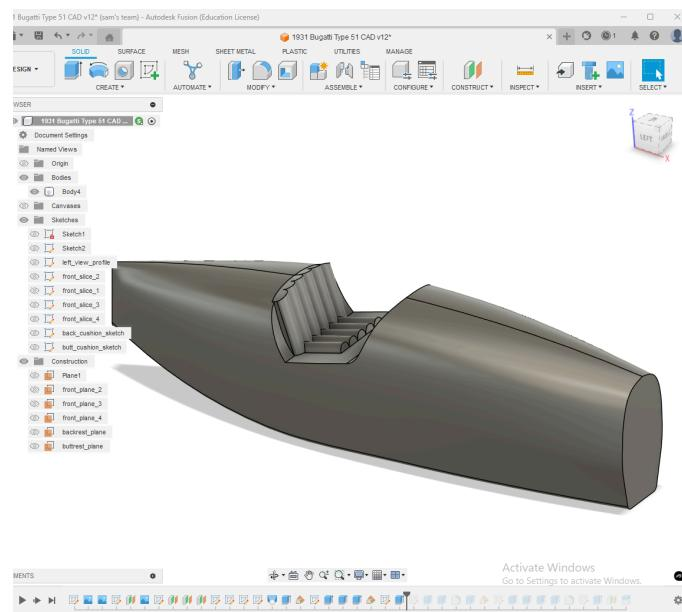

Fig. 15: Extruding the seat cushions outwards
4. The same can be repeated for the lower portion of the seat. A construction plane with semicircles is extruded to create the bottom of the seat as depicted in **Fig. 15**.